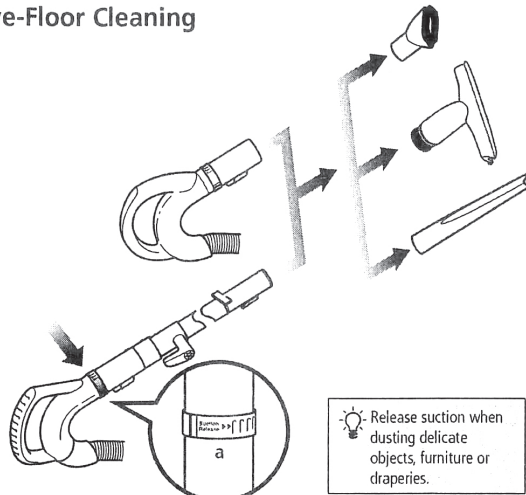

Fig. 16 Suction Release Collar
- 2 Attach desired accessory onto the end of either the extension wand or the handle. (Fig. 16)